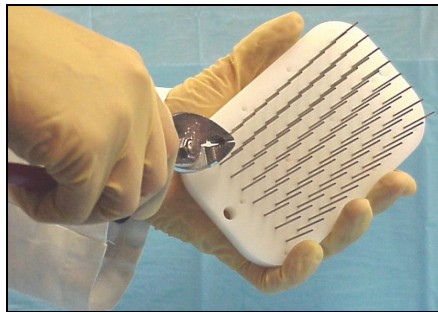

Figure 7: Carefully remove needle from needle plate
3. To remove the needle to be replaced, grip the needle end firmly with pliers and pull with a slight twisting motion perpendicular to the needle plate. (See Figure 7.)